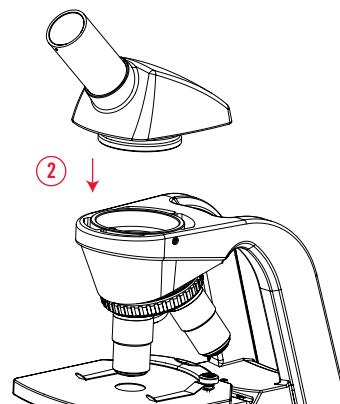

Figure 5b
- Insert the new body tube vertically into pilot hole of the main unit, resting it on the shoulder. (Figure 5b)